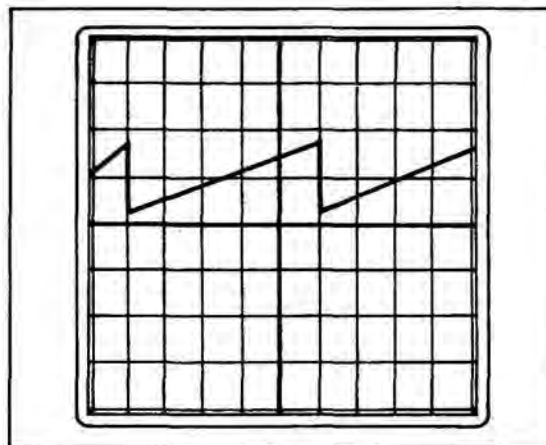

Figure 7-25 Ramp-Up Display of Sawtooth Waveform
16. Connect CH A of Oscilloscope to FL9905, using 1 Sec/DIV setting. Verify Oscilloscope displays a low frequency sawtooth wave with amplitude of approximately +9 V. See Figure 7-25.